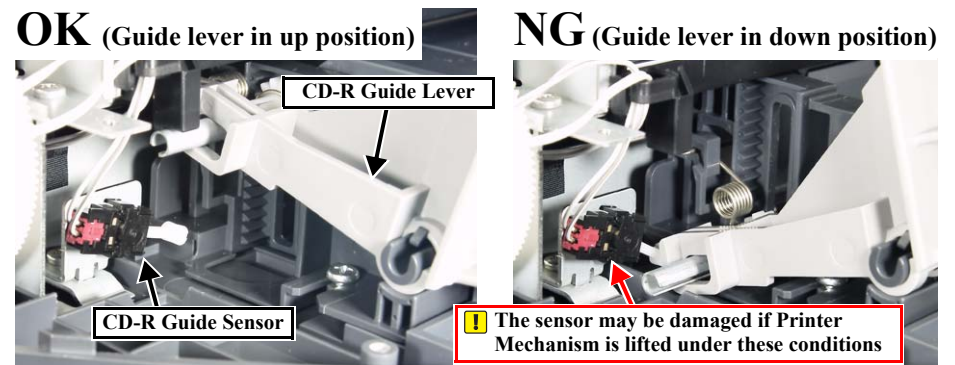

Figure 4-38. CD-R Guide Lever and CD-R Guide Sensor
- Do not remove or install the Printer Mechanism Assy with the CD-R Guide in the lower position; otherwise, CD-R Guide Sensor may be damaged. (Fig. 4-38)